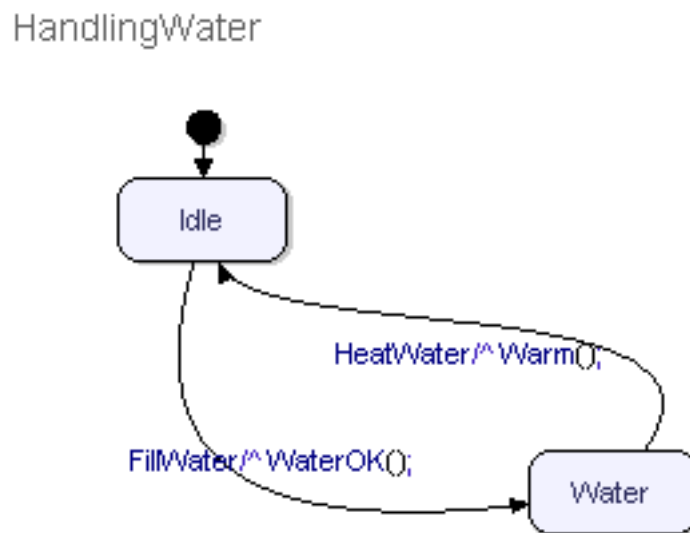

Figure 13: State machine diagram HandlingWater
2. Implement the behavior as depicted in Figure 13 on page 26.